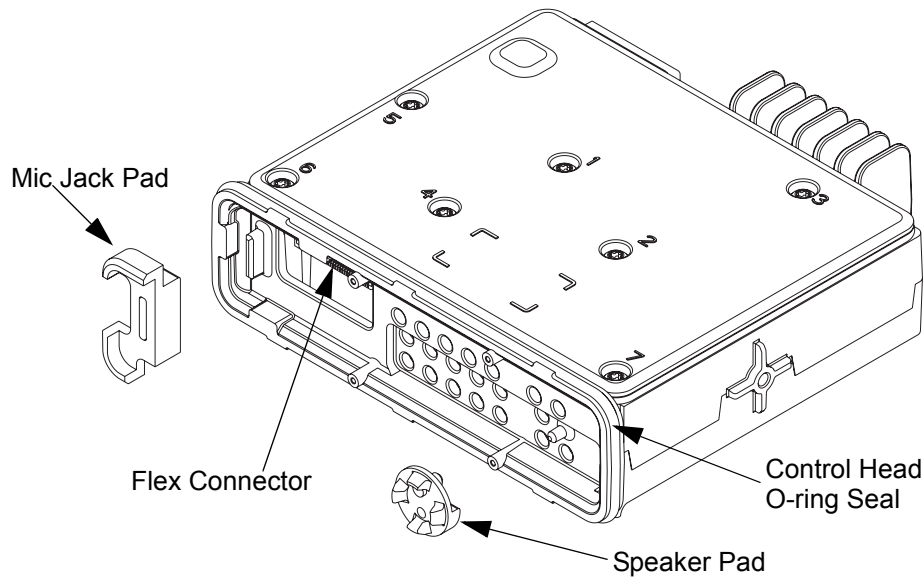

Figure 5-61 Mic Jack Pad and Speaker Pad on Chassis
1. Assemble the mic jack pad, speaker pad, and control head O-ring seal on the radio as shown in Figure 5-61.